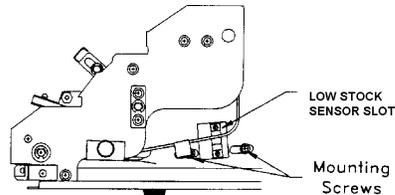

Figure 6-11 Low Stock Sensor
- Tear off a strip of the label liner and insert the liner paper in the Low Stock Sensor slot. Refer to Figure 6-11.